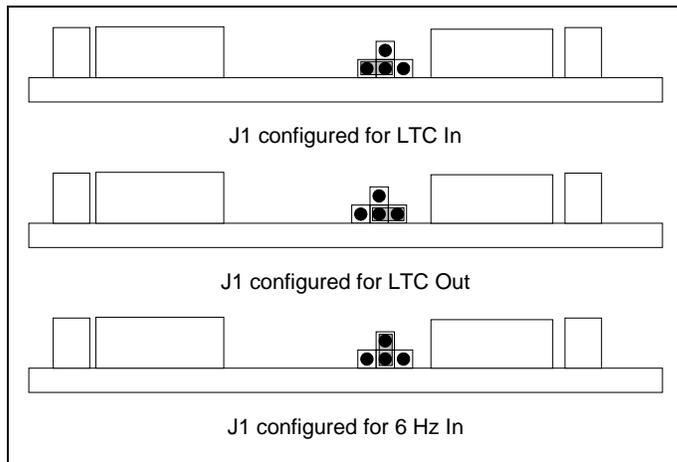

Figure 2-2: LTC Configuration Jumpers (Single Slot version)
**LTC OUT/IN2/6HZ:** This BNC connector is configurable using jumper J1 on the IO rear module as shown in Figure 2-2 and Figure 2-3.